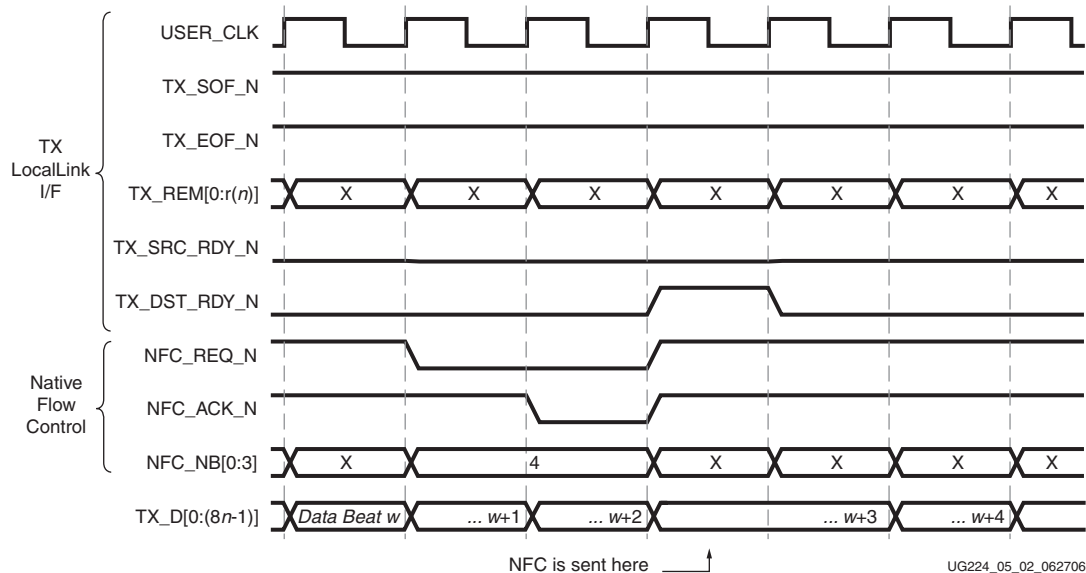

Figure 5-2: Transmitting an NFC Message
Figure 5-2 shows an example of the transmit timing when the user sends an NFC message to a channel partner. Note that TX\_DST\_RDY\_N is deasserted for one cycle(1) to create the gap in the data flow in which the NFC message is placed.